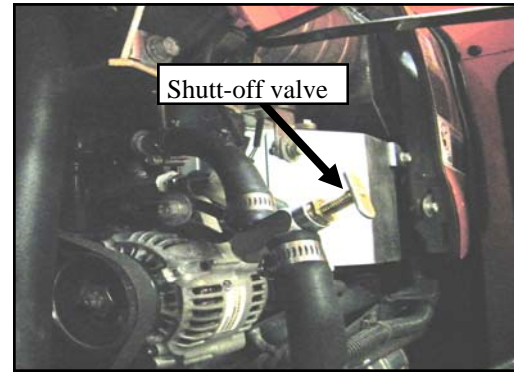

FIG. 2.7
2.7 Splice into the heater supply line and install the in-line shut-off valve with small hose clamps. The valve can be installed anywhere accessible in the heater supply line. It does not have to be installed where shown in figure 2.7.